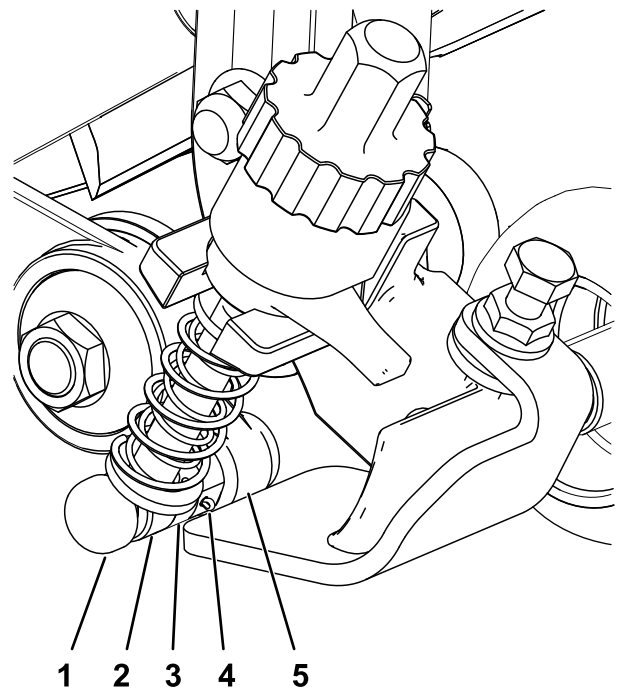

Figure 12
3. On the idler assembly side, align the adjuster-arm rod of the HOC bracket with the adjuster collar on the idler assembly and secure it with an adjuster pin and cotter pin (Figure 12).